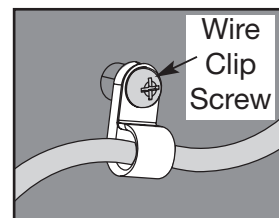

Figure 27
- Using a Phillips head screwdriver, loosen the screw on the wire clip and remove the display cable from it. See Figure 27.
- B. Using a Phillips head screwdriver, place the display cable in the wire clip and tighten the screw. See Figure 27.